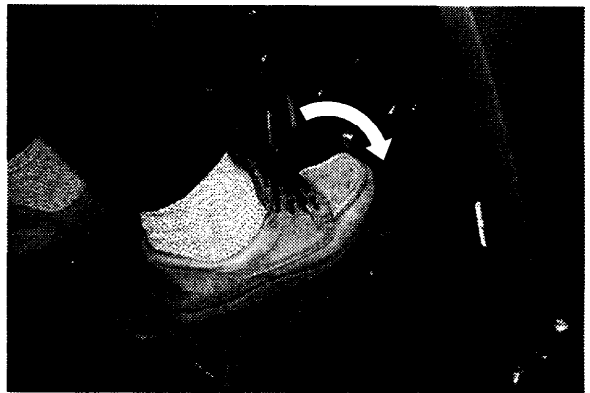

Figure 19
7. Press top of directional pedal to drive machine forward. Travel speed is controlled by the amount of pressure applied on pedal (Fig. 19).